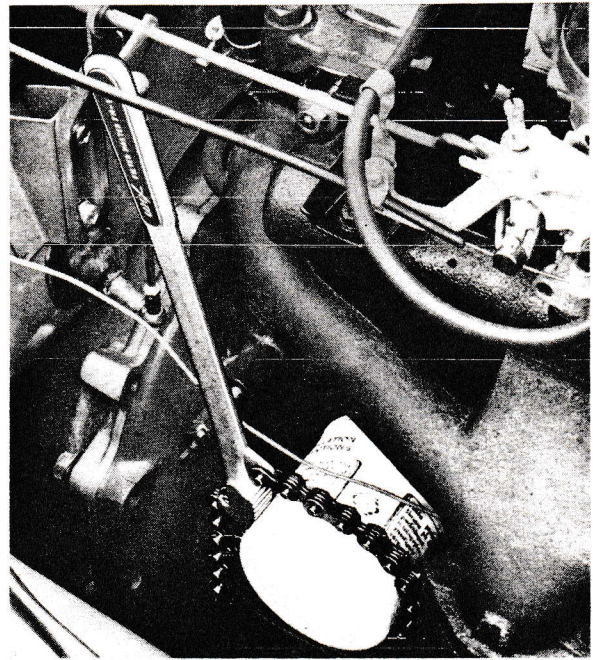

Fig. 59. Removing the oil cleaner
The oil cleaner (Fig. 59) is, together with the element and relief valve, screwed onto a nipple in the block as one unit.
1. Remove the old cleaner with the help of a tool as shown in Fig. 59.